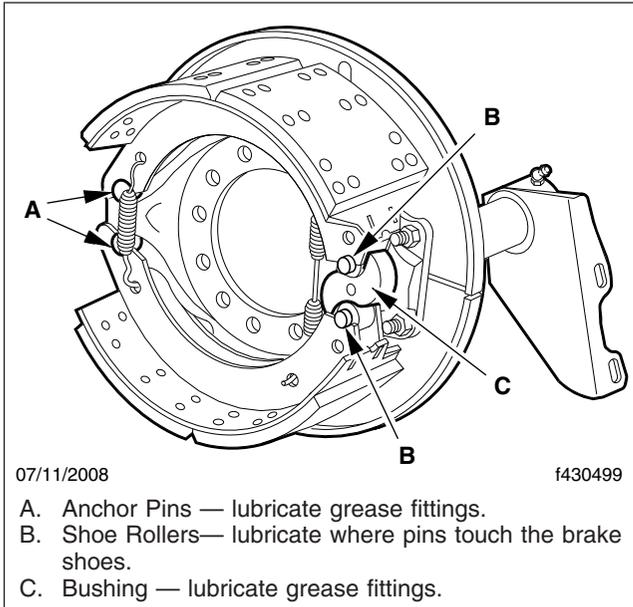

Fig. 10.16, Meritor Roller Pin Lubrication Areas
5. Inspect brake shoe components and perform Meritor Roller Pin lubricating, **if needed**, as follows. See Fig. 10.16.
- 5.3 While the brake is disassembled during inspection, apply anchor pin grease with Bentone thickeners, NLGI grade 1, Meritor specification 0-616-A, 0-617-B or equivalent. See Fig. 10.16 for brake lubrication areas.